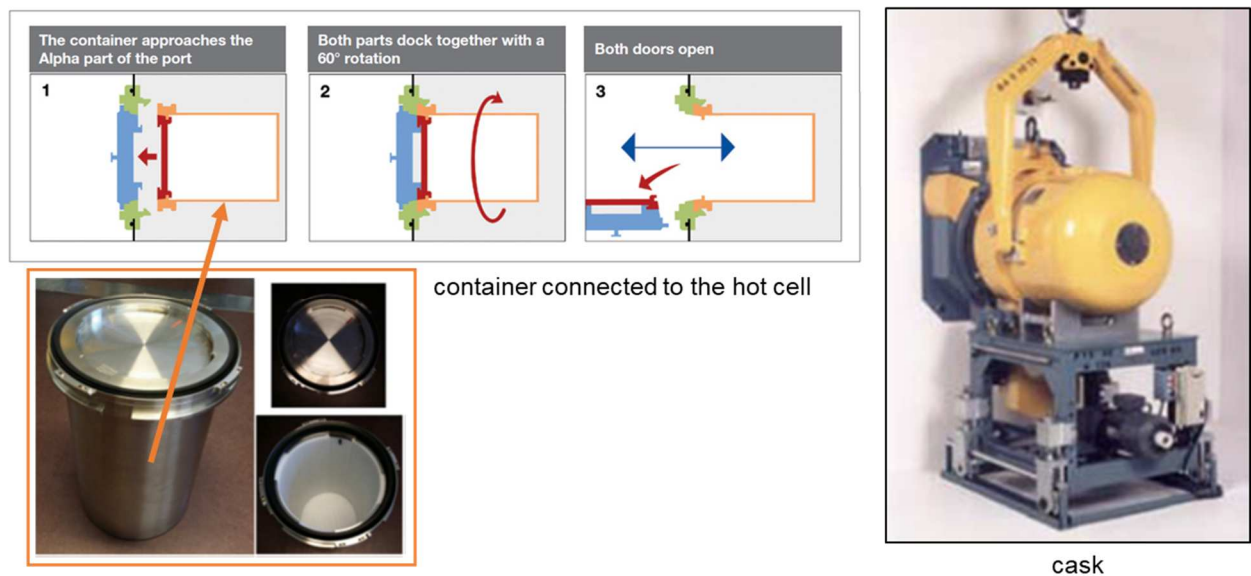

Figure 3: Container and cask used for transferring secured bottle
- It must not lead to any major modification to the structures of the shielded lines. This means that the secured bottle has to be placed in or removed from the shielded line using the same system as that used for solid radioactive waste, i.e. a stainless steel container to avoid contamination and a cask for radiation protection (*Cf. figure 3*).